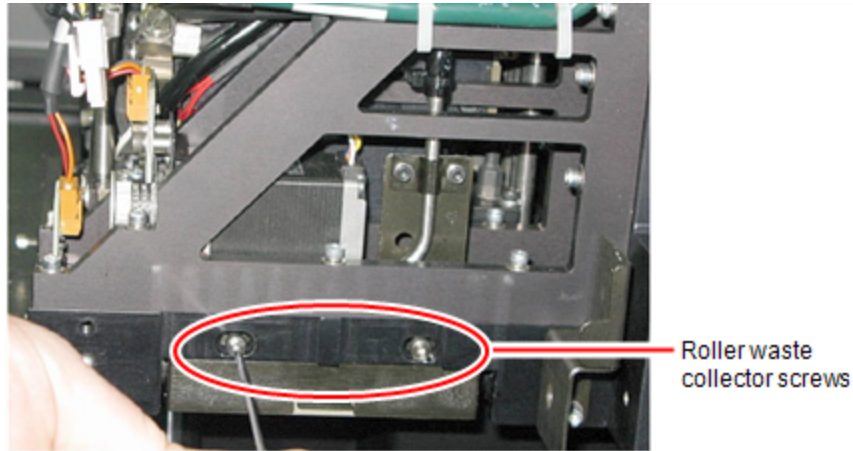

Figure 4-50 Removing the roller waste collector screws
- Return the roller waste collector to the print block and screw on the covering (see Figure 4-50 on the previous page).